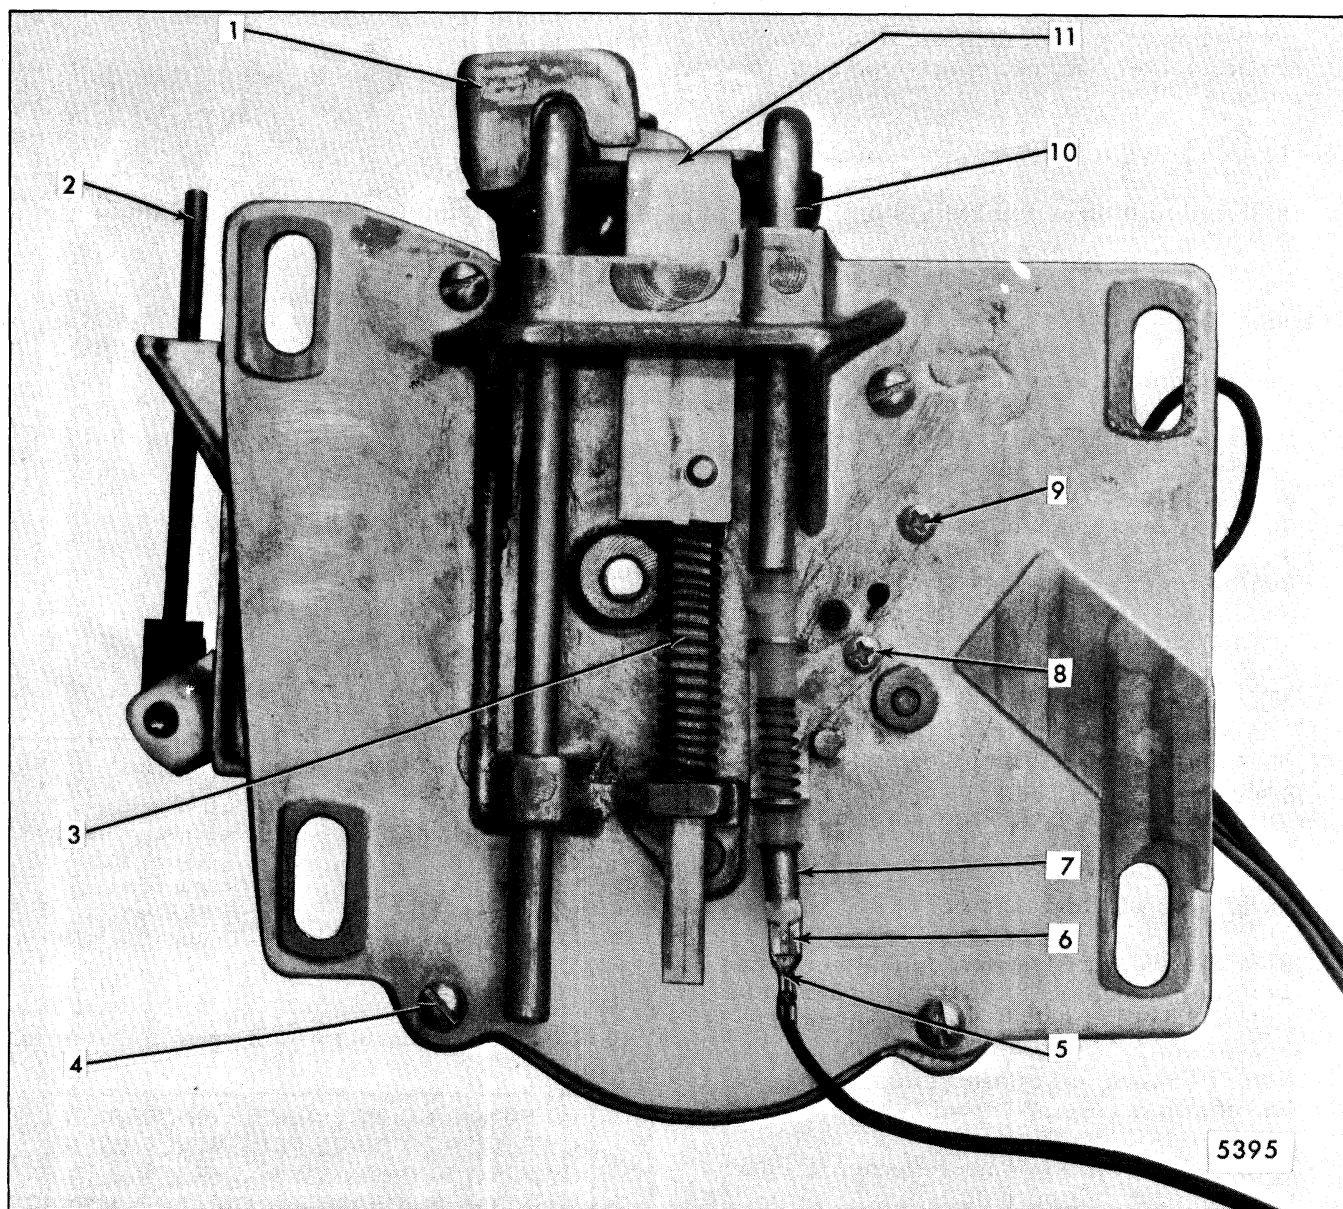

Fig. 7-34-Closing Unit Rear View
2. Remove actuator switch retaining screw from rearward side of unit cover (Fig. 7-34).
NOTE: To remove, depress terminal locking barb with pointed instrument (Fig. 7-34).
2. Insert plunger into plunger slot at upper edge of cover assembly. Slip plunger spring onto narrow neck of plunger (Fig. 7-34) and insert narrow neck into lower guide of cover.